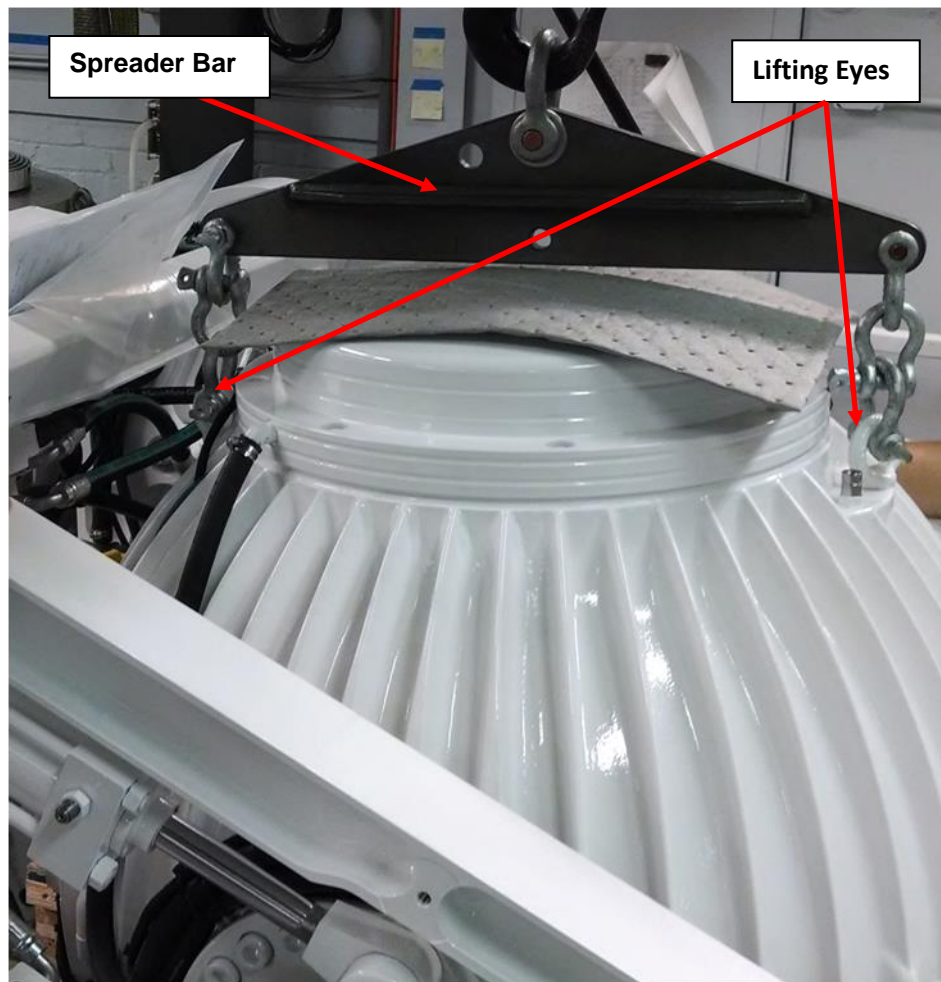

FIGURE 4 – LIFTING ARRANGEMENT
- 5) Attach spreader bar to the two lifting eyes located on the top of the Seakeeper enclosure. Stay clear of any other parts on the Seakeeper. The Seakeeper 26 weighs 1388 kg (3060 lbs). See Figure 4 below.